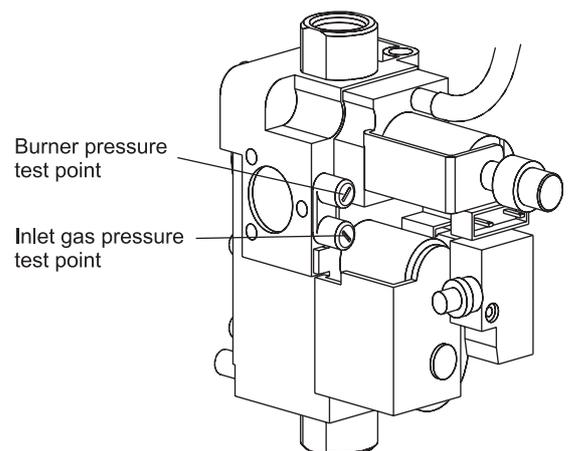

Fig. 23
2. Loosen the gas inlet pressure test point screw on the gas valve (see Fig. 23). Ensure the gas supply is on and open the boiler service cock to purge in accordance with BS 6891.
5.5 CHECK THE BURNER PRESSURES - Fig. 23